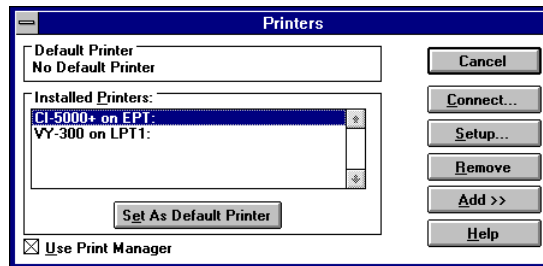

Figure 2-53. Printers Dialog Box
2. Open the Main program group, open the Control Panel, and double-click on Printers to display the Printers dialog box (Figure 2-53).